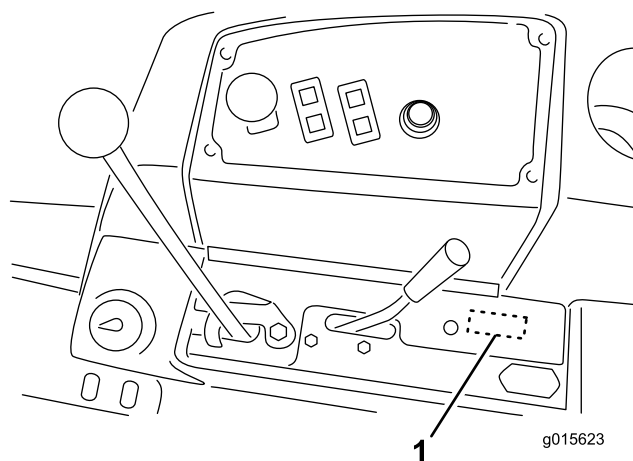
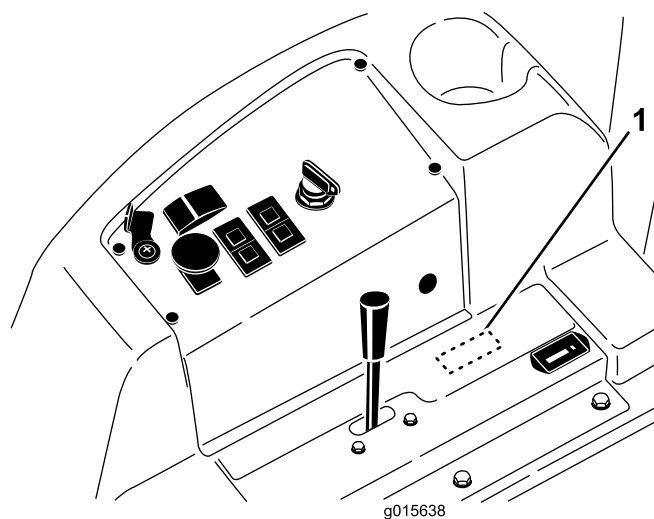

Figure 8
Figure 9
17. Remove the knock-out plug, under the decal in the lower control panel (Figure 8 and Figure 9).